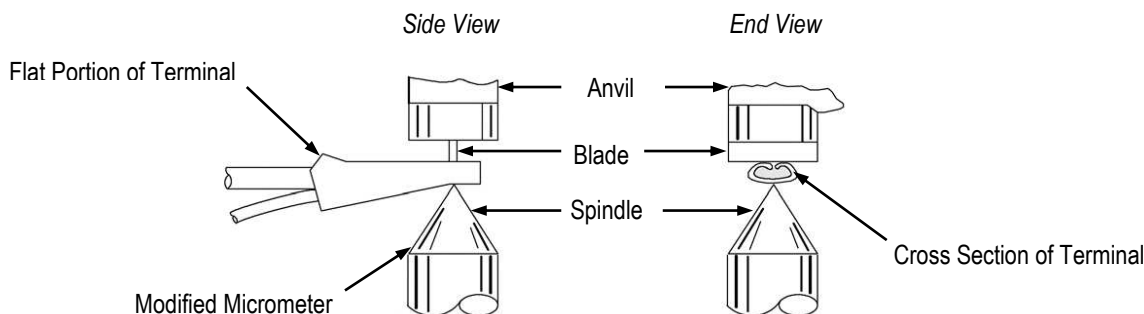

Figure 16
1. Inspect the termination for conformance to the requirements given in Figure 16, Detail A.
- Using a crimp height micrometer, measure the crimp height of the termination as shown in Figure 16, Detail B. The crimp height must be within ± 0.08 mm [$\pm .003$ in.] of the measurement specified for the type of terminal and wire size being used.